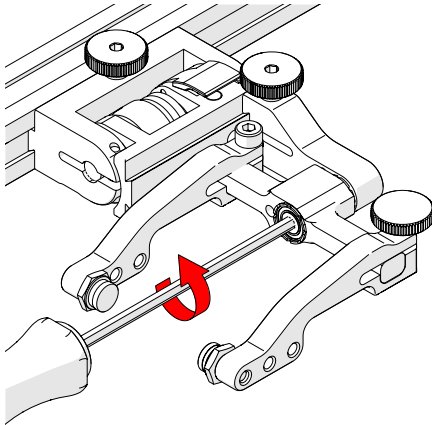

Fig. 81 - Unscrew yoke pivot screw
1. Unscrew the yoke from the swing arm (Fig. 81).